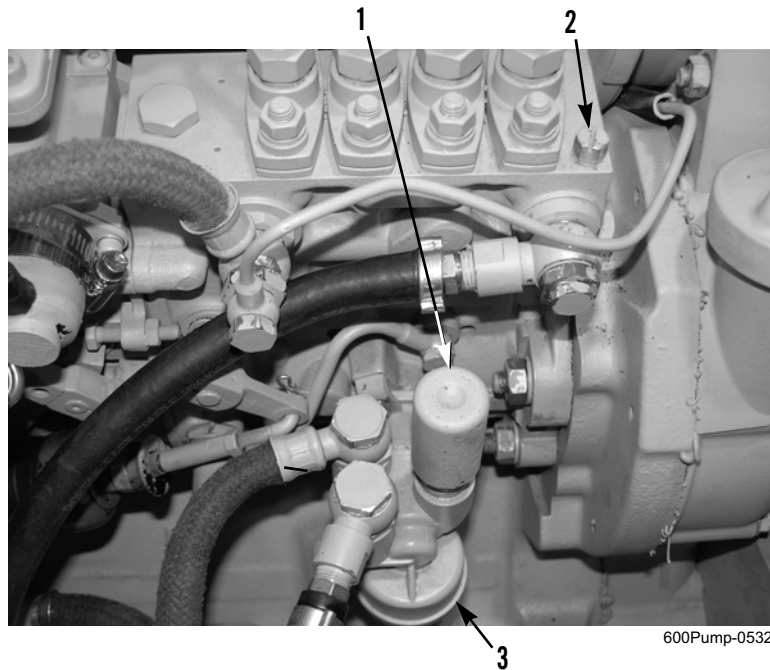

Figure 1. Fuel Pump.
1. Place a suitable container under fuel pump (Figure 1, Item 3).
2. Loosen ventilation valve setscrew (Figure 1, Item 2).
3. Move hand pump (Figure 1, Item 1) up and down until bubble-free fuel escapes from ventilation valve.
4. Tighten ventilation valve setscrew (Figure 1, Item 2), while still pumping.